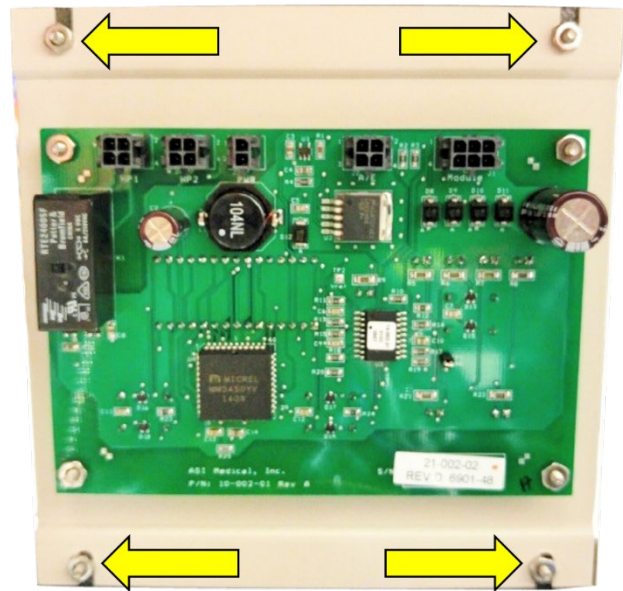

Fig. B3
- B5. Install full panel using a 1/4" nut driver, thread four (4) nuts to hold to cover plate. **(Fig. B3)**